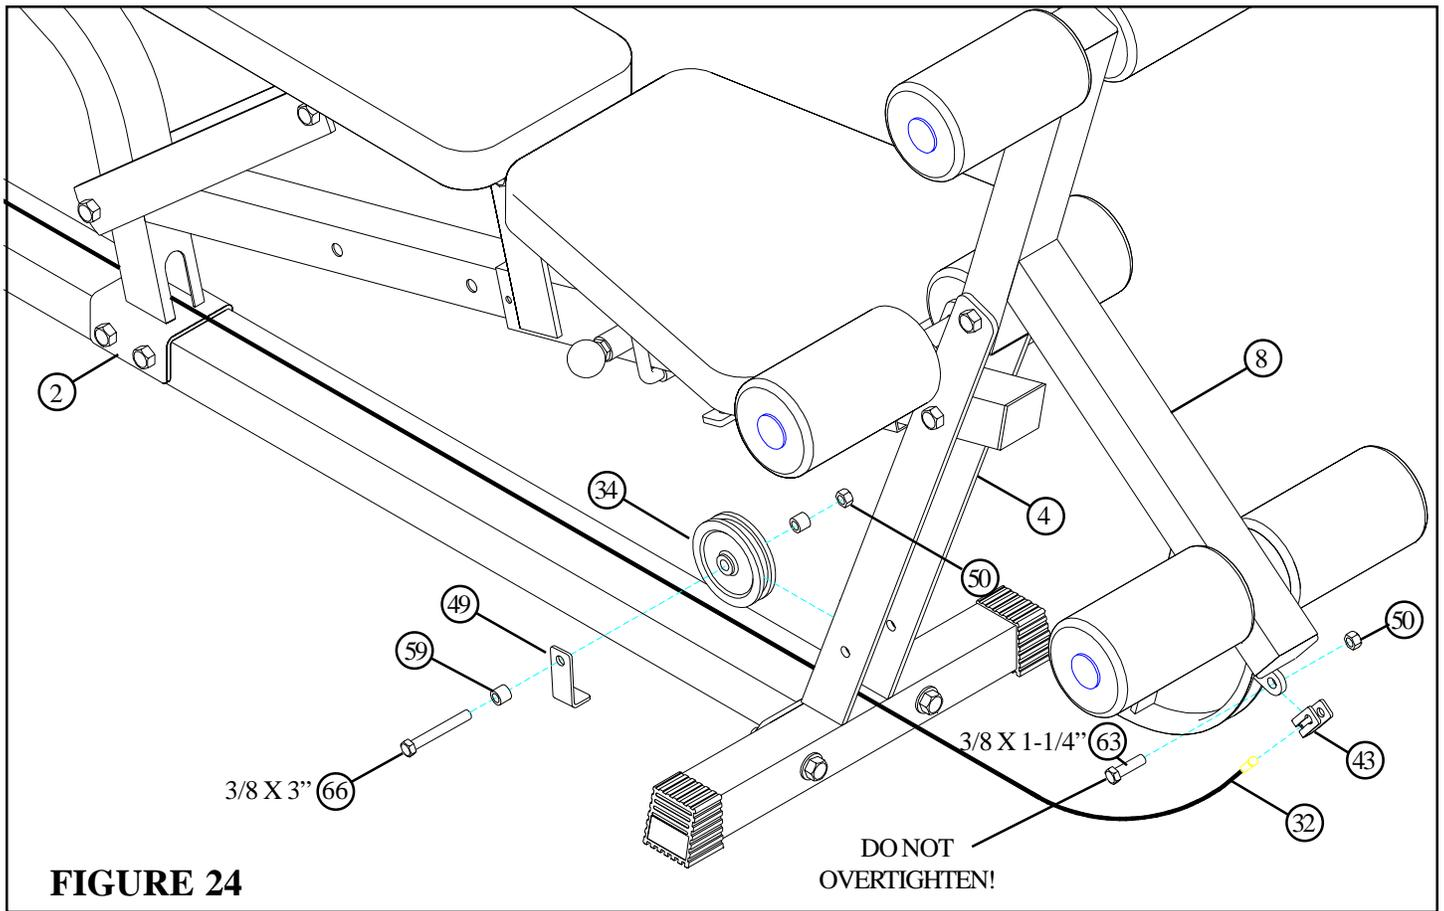

**FIGURE 23**
- **SECURELY** assemble one 3-1/2" PULLEY (34) to the tab on the BASE (1) using one 3/8 X 2" BOLT (64), two 3/8" WASHERS (51), one 2-3/8" CABLE RETAINING CLIP (49), and one 3/8" LOCK NUT (50) as shown in FIGURE 23.
- Route the SECONDARY CABLE (32) around the pulley and retaining clip. (**NOTE: The bolt holding pulley and retaining clip may need to be loosened to align cable retaining clip with cable.**)